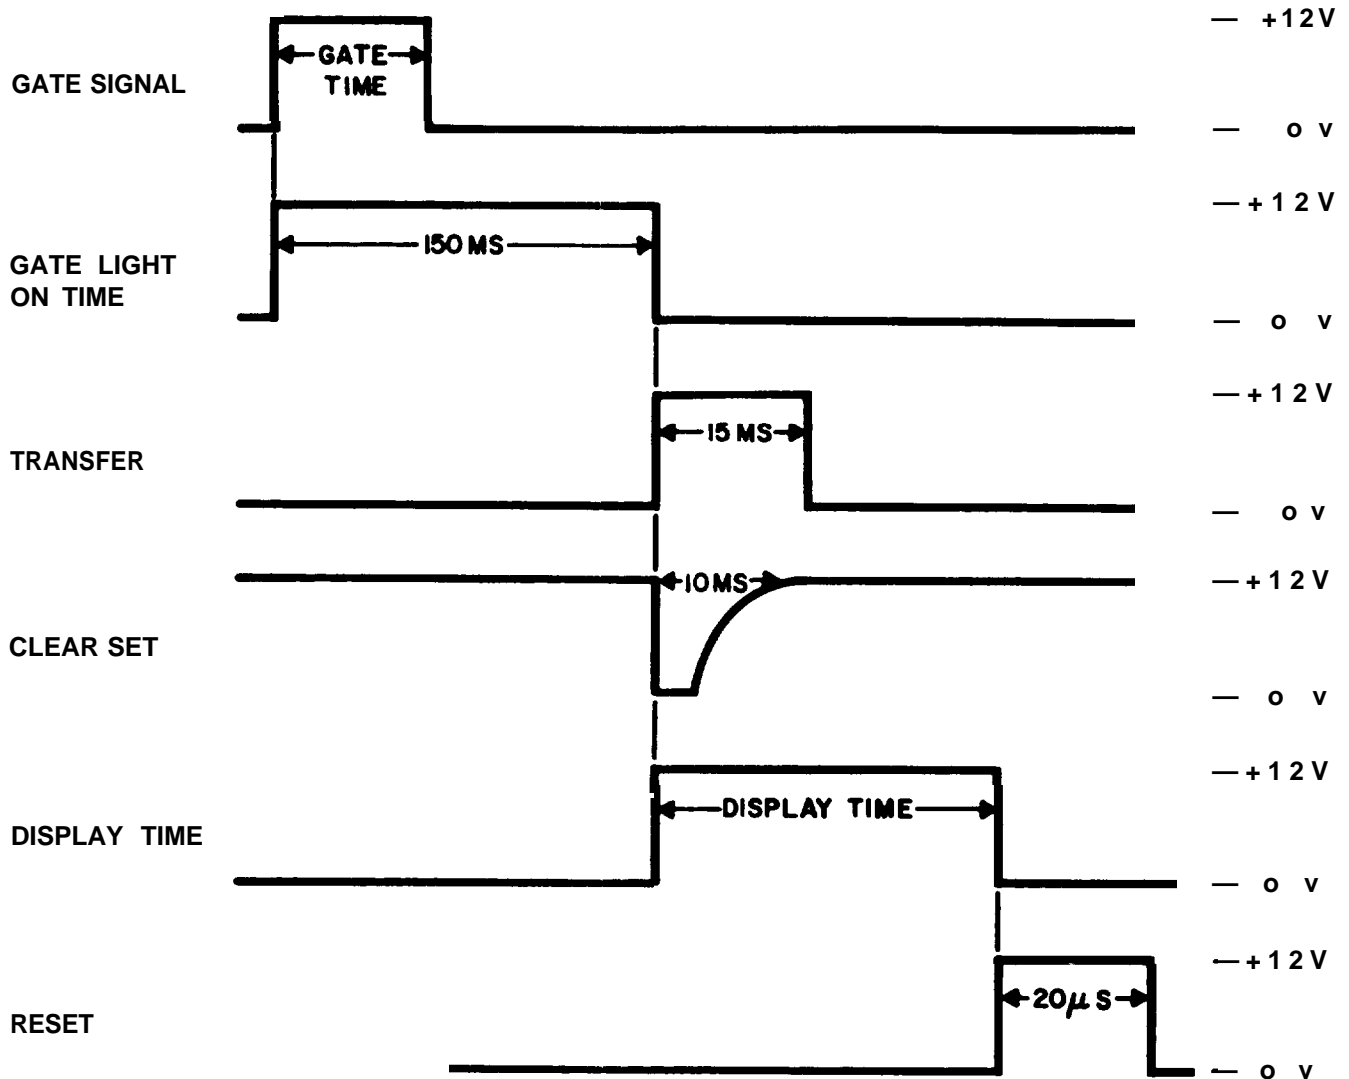

Figure 4-18. Cycle Control, Timing Diagram
As the GATE lamp goes off the 10-millisecond single-shot SS5, consisting of A1A7Q4 and A1A7Q5, is triggered. Its output is de-coupled to INV4 and at-coupled by A1A7C1 to EF2. These two transistors (A1A7Q1 and A1A7Q2) produce the memory transfer pulse and memory clear set pulse, respectively. If memory operation is not required, INV1 conducts, causing INV4 and EF2 to produce proper outputs for track operation. Figure 4-18 is a timing diagram for the cycle control functional section.
c. USEFUL ILLUSTRATIONS. - Illustrations useful in maintaining this functional section are: figures 4-18, 4-19, 5-43, and 5-71.